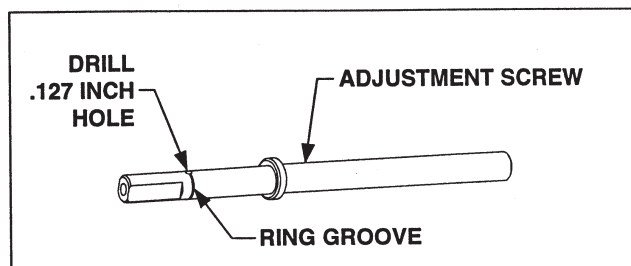

Figure 2
7. Secure the adjustment screw in a vise. At the ring groove in the screw, drill a .127 (1/8 inch) hole through the diameter (See Figure 2).